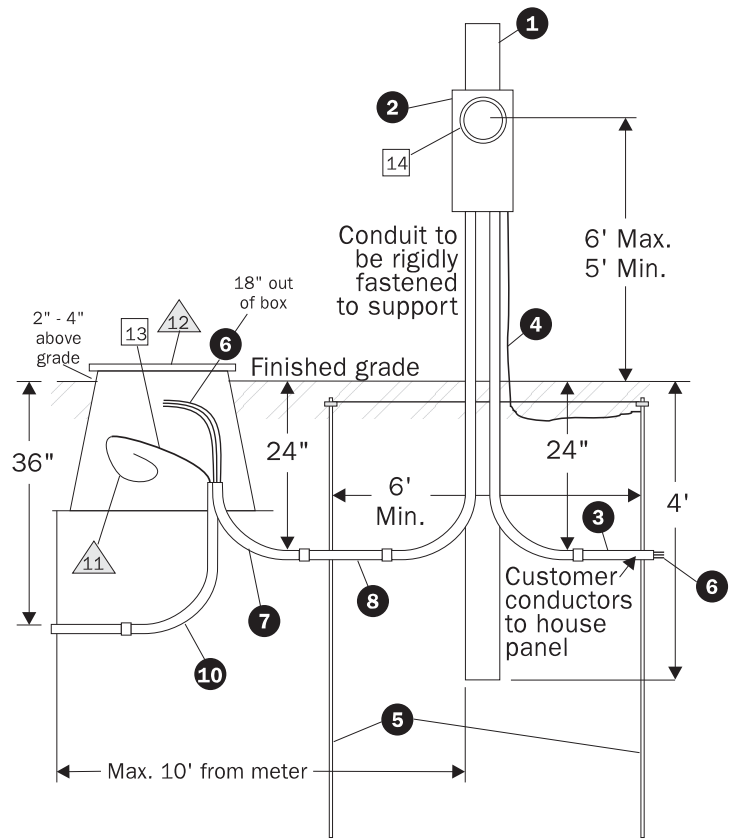

Figure 21.
Pedestal mounted (see Figures 21 & 22, page 16)
1. **Custom built-** a pedestal that you or your electrical contractor builds. See Figure 21.
Items owned and installed by customer (Figs. 21, 22)
Items owned by CLPUD and installed by customer (Figs. 21, 22)
Items owned and installed by CLPUD (Figs. 21, 22)